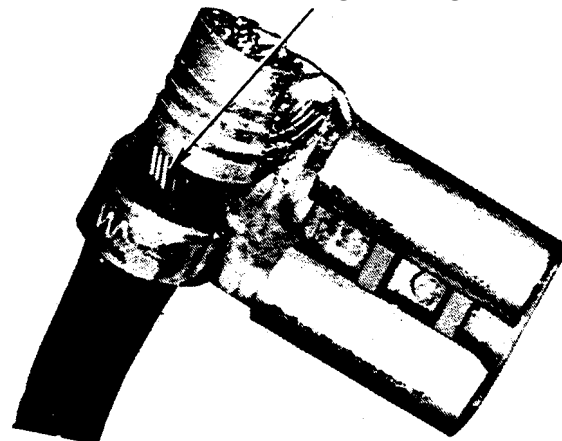

Figure 4
- 3. If condition 3 is evident, carefully attempt to move the insulation back from the crimp area to expose bare wire strands as shown in figure 4. Use a non metallic probe for this operation. If bare strands can be exposed as shown in figure 4, solder conductors to crimp area of flag terminal per soldering procedures outlined in paragraph D. If wire strands cannot be exposed and insulation appears to be caught within the conductor crimp area, replace the capacitor.